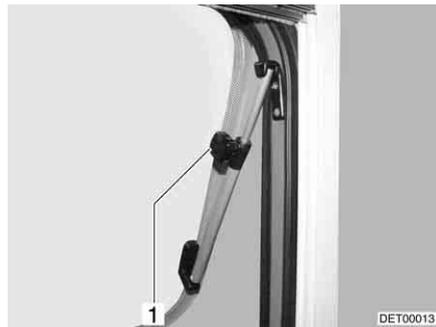

Fig. 66 Skylight with rotary hinges, open
- Open the skylight until the required position has been reached and use knurled knob (Fig. 66,1) to secure in position.
- Turn knurled knob (Fig. 66,1) until the latch is released.